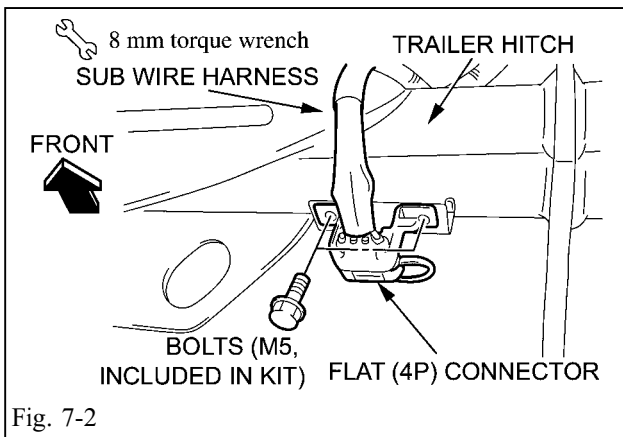

Fig. 7-2
- ⚠ (2) Torque bolts to: 3.9 N-m [36 lbf-in] (Fig. 7-2)